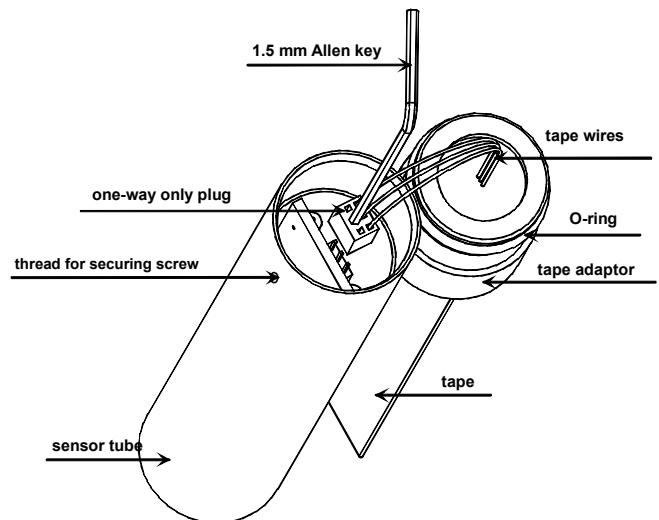

Figure 9-8
- Refer to Figure 9-8.
- With one hand keep the sensing probe and the tape adaptor as shown on Figure 9-8.
- With the other hand drive the plug into the new sensor tube with the 1.5 Allen key to connect it to the sensing probe socket. Note this is a one way only plug. The wires shall be on the opposite side of the electronic circuit print as shown on Figure 9-8.